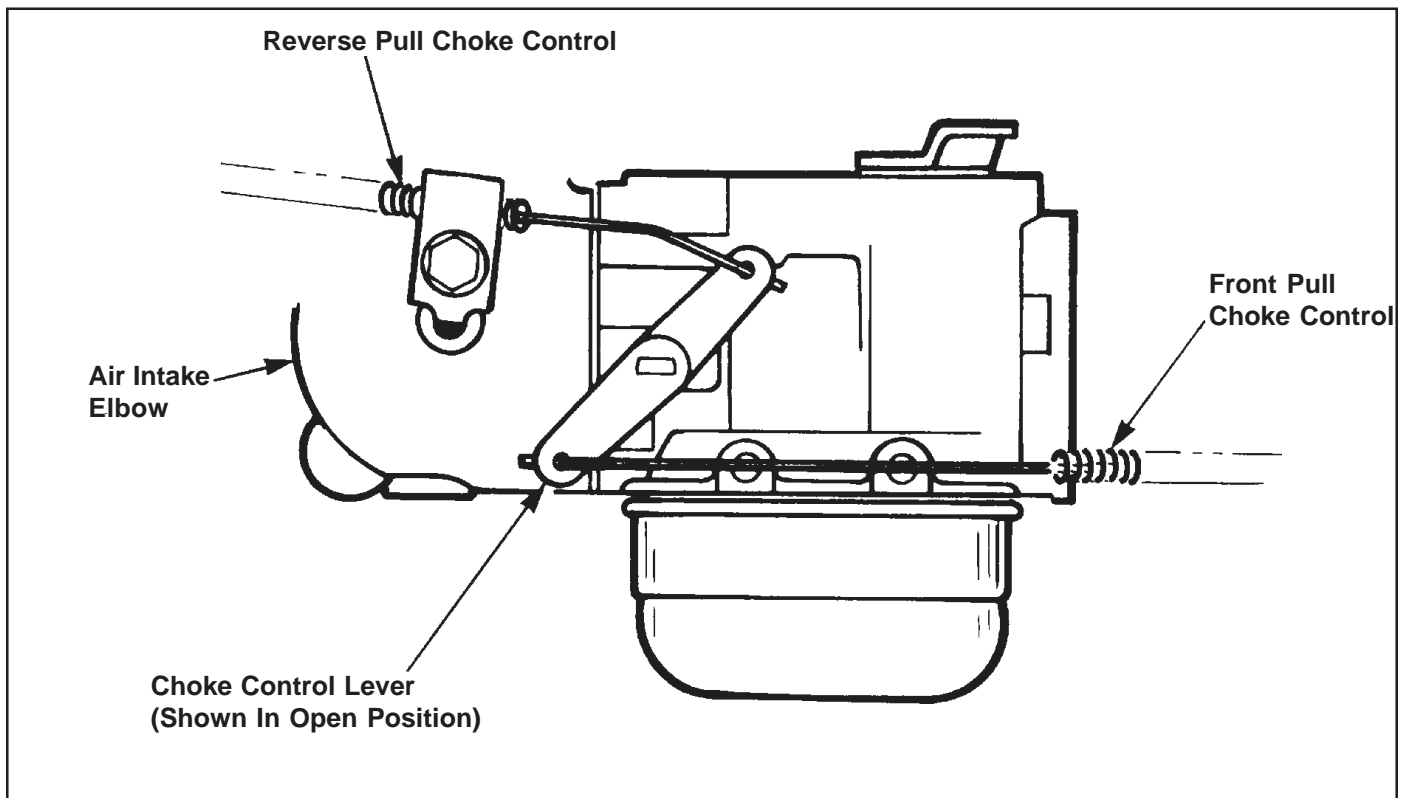

Figure 2. Magnum Twin Horizontal Choke Control.
B. Choke Control (See Figure 2)